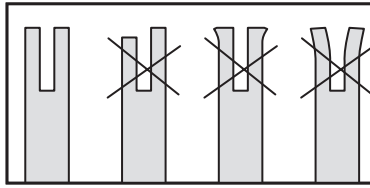

Fig. 64
5. Regularly check the guide bar rail for abnormal wear. Both sides of the rail should remain at the same height when viewed along the rail edge. Abnormal wear as seen in Fig.64 indicates that the bar needs to be replaced.